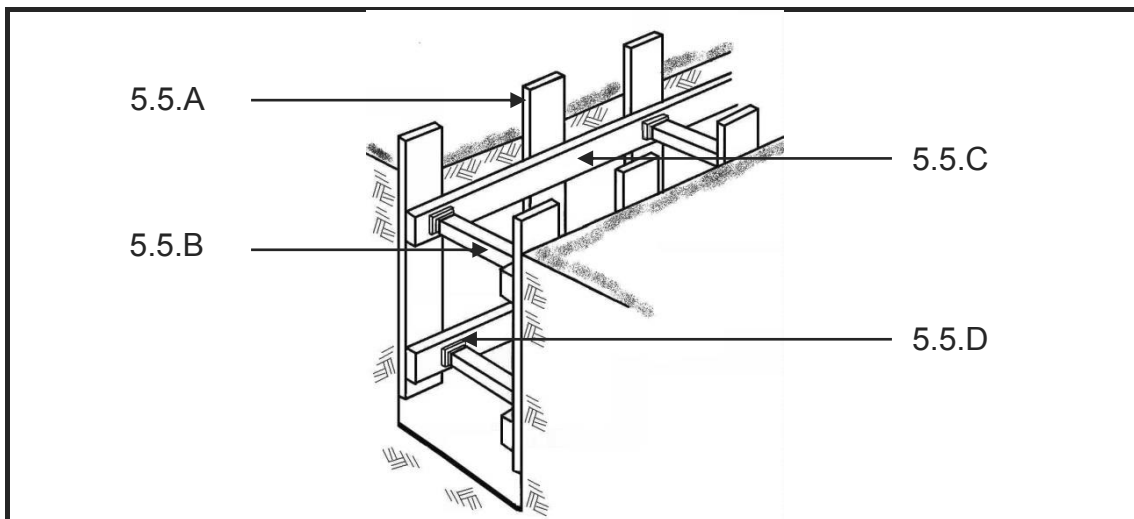

FIGURE 5.5
5.5 Answer the following question with regard to the formwork in FIGURE 5.5.